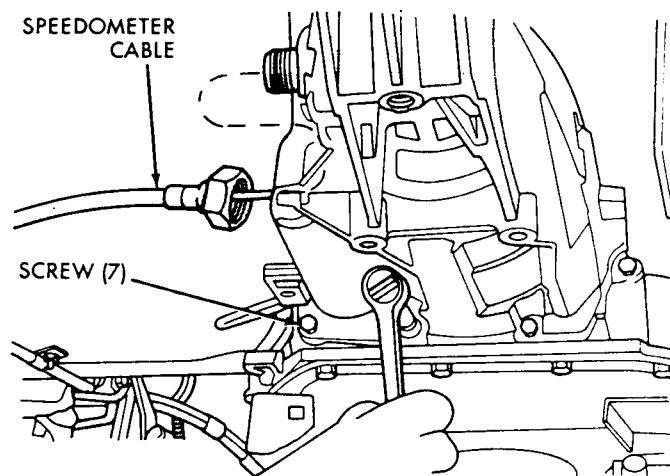

Fig. 2—Attaching Bolts
(5) Remove seven bolts securing overdrive unit to transmission (Fig. 2).